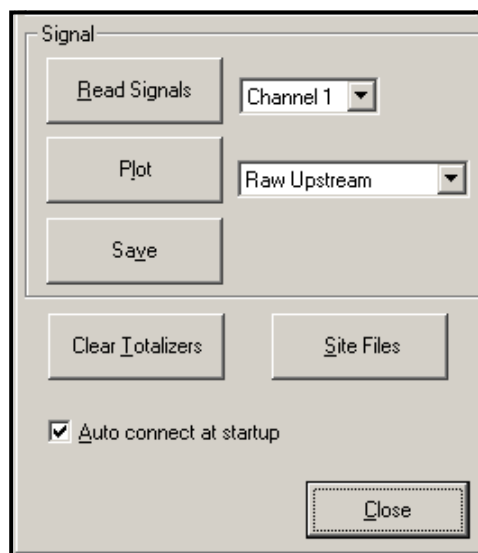

Figure 7: Active Signal Options
3. To read a signal from the meter, click on the **[Read Signals]** button. (If the meter is a multi-channel instrument, open the Channel drop-down menu and click on the desired channel.) After a moment, the *Properties* window appears similar to Figure 7.